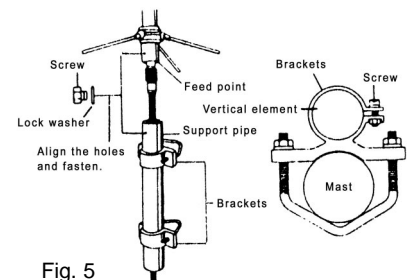

Fig. 5
5. Attach mast brackets to Antenna Support Pipe. Pass coaxial cable through bottom of support pipe. Connect coaxial cable to connector at bottom of F-718A. (Figure 5.) Align threaded hole at the bottom of antenna with hole at top of Antenna Support Pipe. Fasten Antenna Support Pipe with screw and washer. (See Figure 5.)